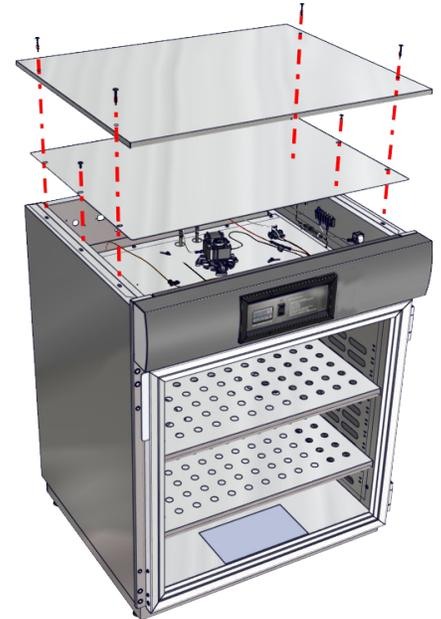

Fig. 1: Remove Top Panels
2. Remove four 8 X 1-5/8" self-tapping screws (Table 1, Item 4) from outside Top Panel (Table 1, Item 1). Remove outside Top Panel and set aside (Fig. 1).
Table 1 (Fig. 1)
5. Re-install the inner and outer top panels (Fig. 1):
- A. Secure inner panel (Table 1, item 2) with two 8 X 1-5/8" self-tapping screws (Table 1, Item 4))